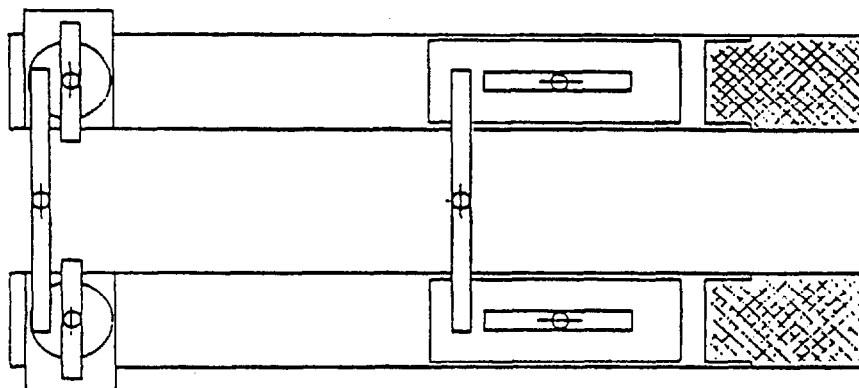

Figure 8: Deck leveling
6. Check and adjust the decks for level using the 4' level. Adjusting screw and jam nuts should be adjusted until each corner of lift is level. Make sure jam nuts are tightened after leveling. Both the front turn plate cutouts and rear slip plates should be checked. Refer to **Figure 8**.